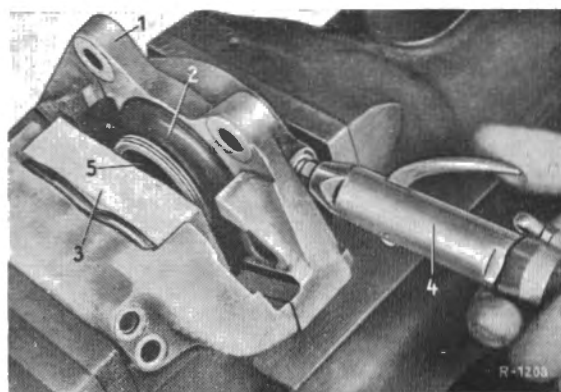

Fig. 42-12/3
5. Take the piston seals (3) out of the cylinder bore groove (Fig. 42-12/4).